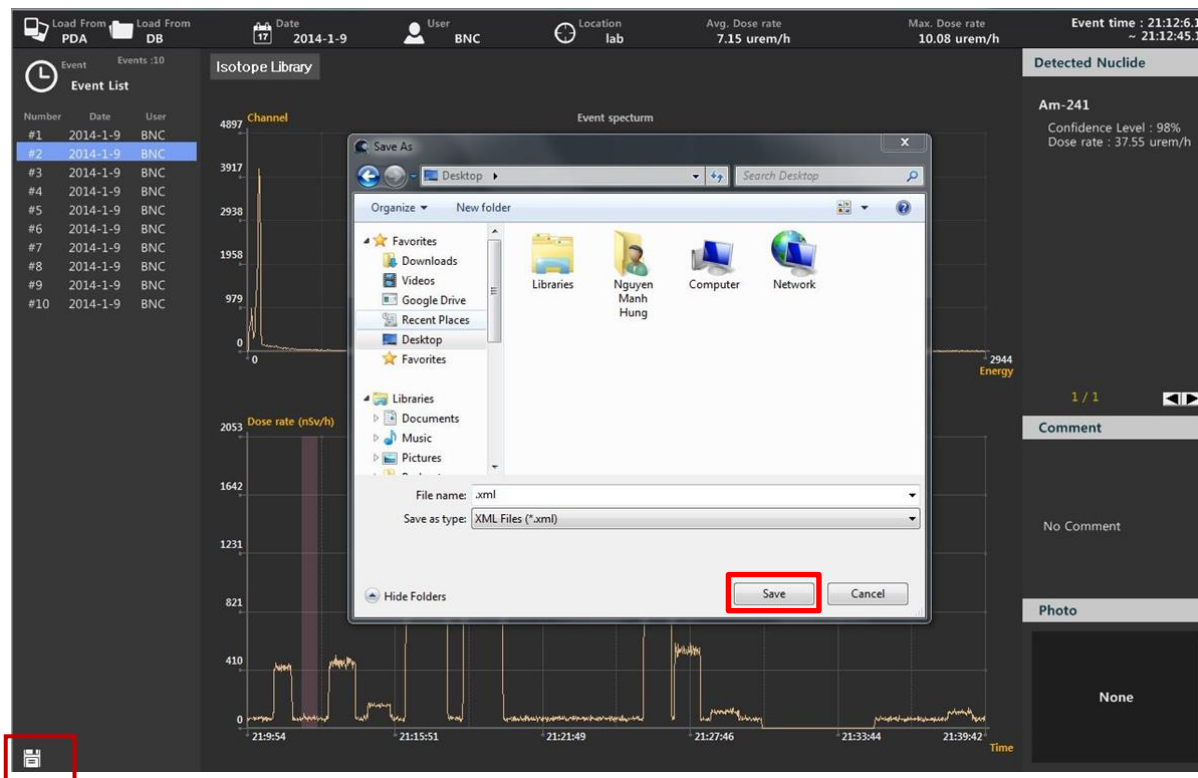

Figure 6.6. Save as XML file format example
1. Select the event from the event list and click the disk icon() in the lower left corner of the screen. The destination directory screen will appear (figure 6.6 below).